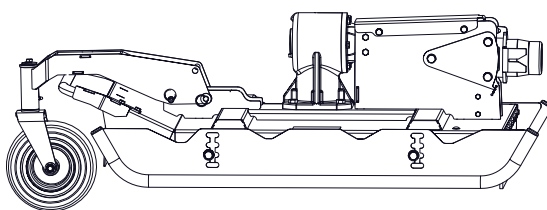

Figure 11
**NOTICE:** To be used for transport only. Transport tire must be in the up position when operating brush mower attachment. See Figure 11.